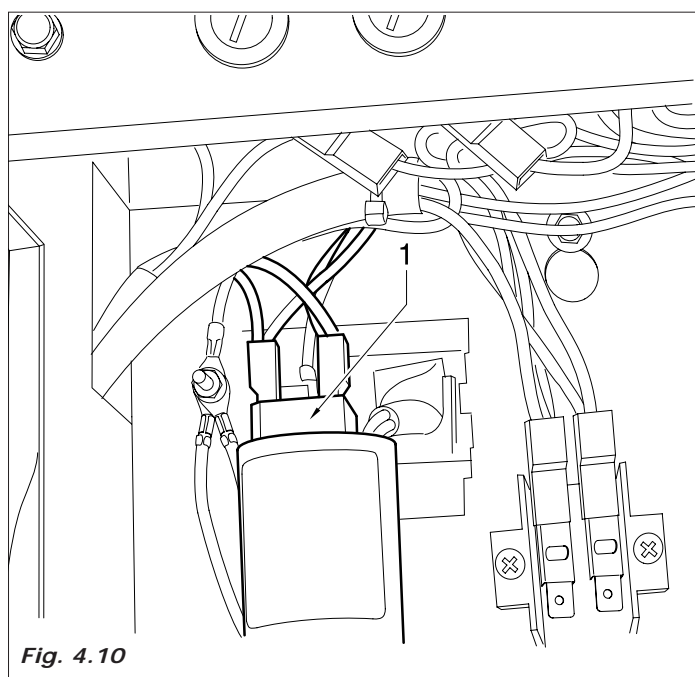
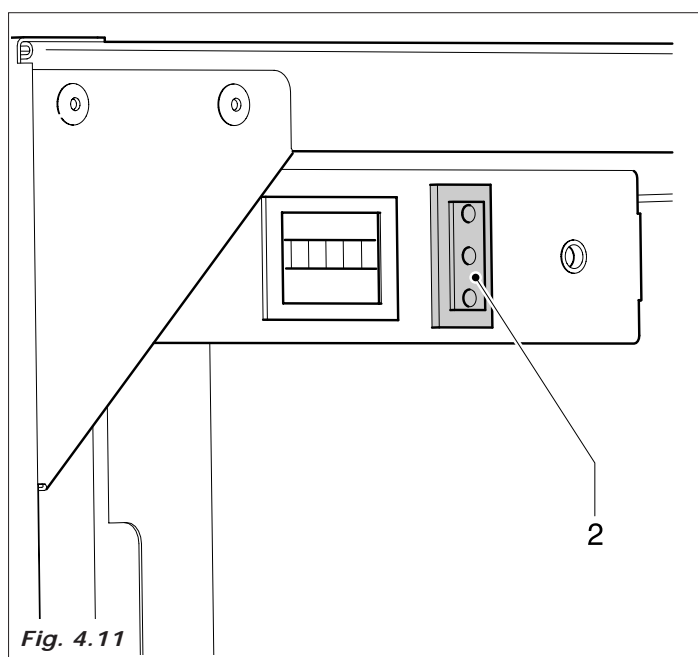

Fig. 4.10
Fig. 4.11
The clamp of the power cable junction box remain under tension (Fig.4.10-pos.1) as well as the service switch inside the distributor. (Fig.4.11-pos.2).